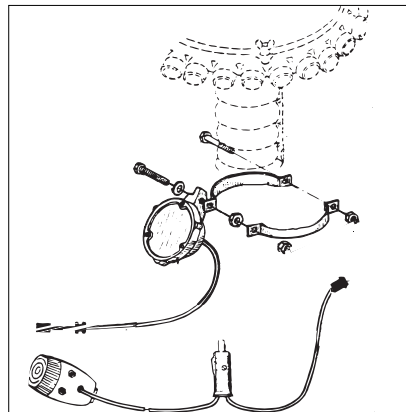

Fig. 24-24
1. Attach the hopper reserve gauge to the underside of the diffuser tube by means of a pipe clamp, see fig. 24-24.
Hopper reserve gauges can also be use without the FGS or ESC. In such cases indication is by means of a magnetic lamp which is connected directly to the socket (12V) in the tractor cabin, see fig. 24-24.